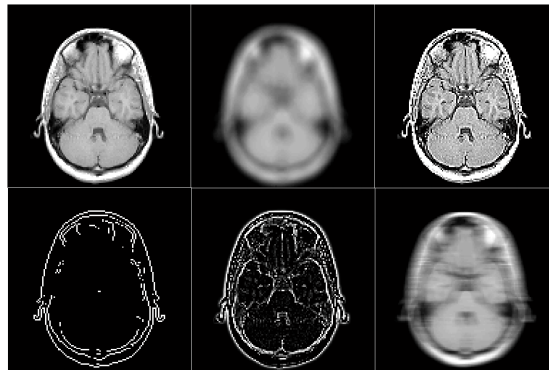

Figure 6.12: Image Filters. An example is shown for applying various image filters.
-  : Provides various image filters (Figure 6.12)